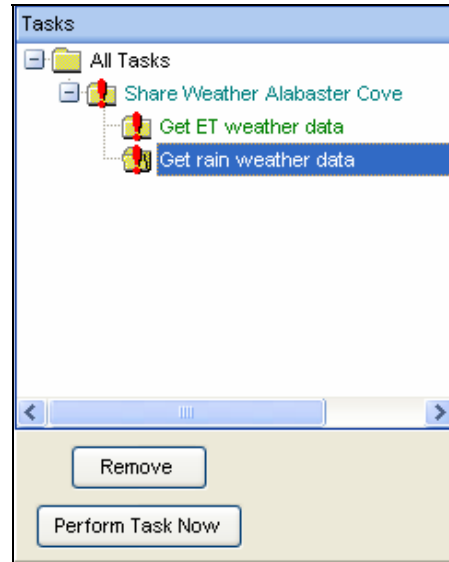

Figure 12.1.8
- Next highlight the **“Get rain weather data”** function (Figure 12.1.8).